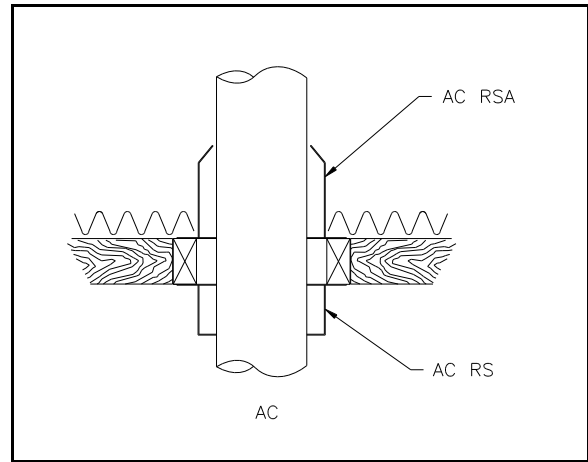

Figure 27
5. From below, install a fire stop. (See figure 27).